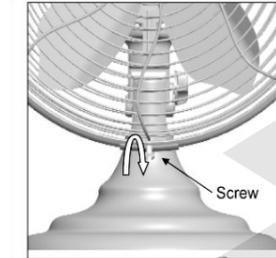

Figure 7
- 7. Tighten the screw to secure the grille ring over the front and back grilles (Figure 7).